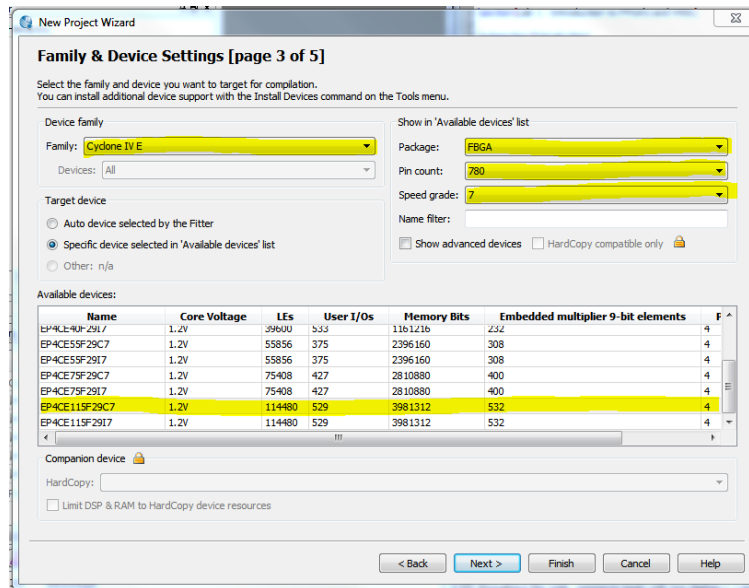

Figure 4: Device selection menu
9. Under Device Family select *Cyclone IV E*, set the package to *FBGA*, pin count to *780*, and speed grade to *7*. In the Available devices list, look for and select *EP4CE115F29C7* as shown in figure 4.